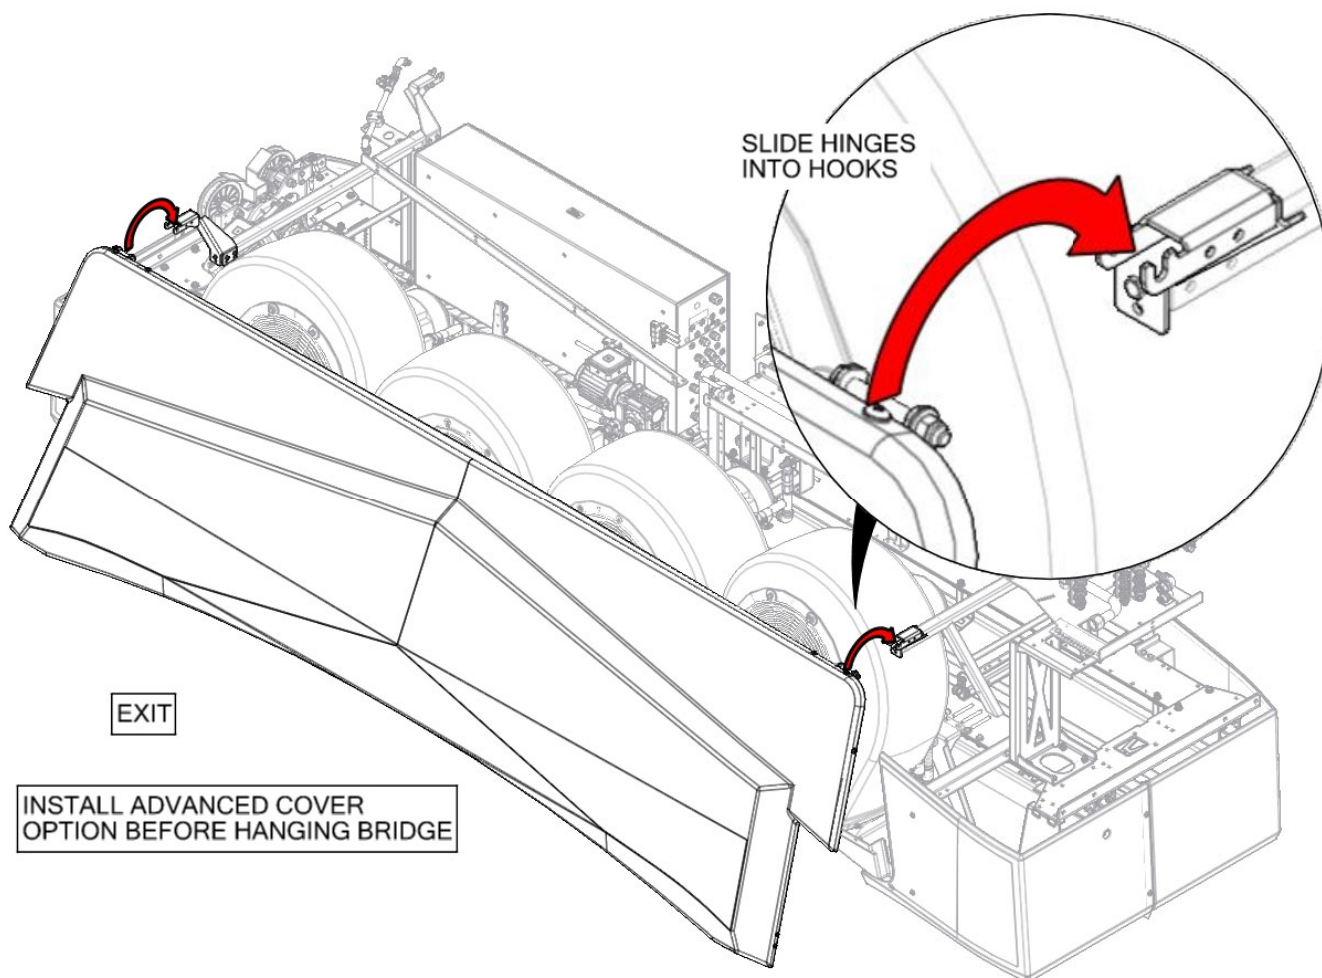
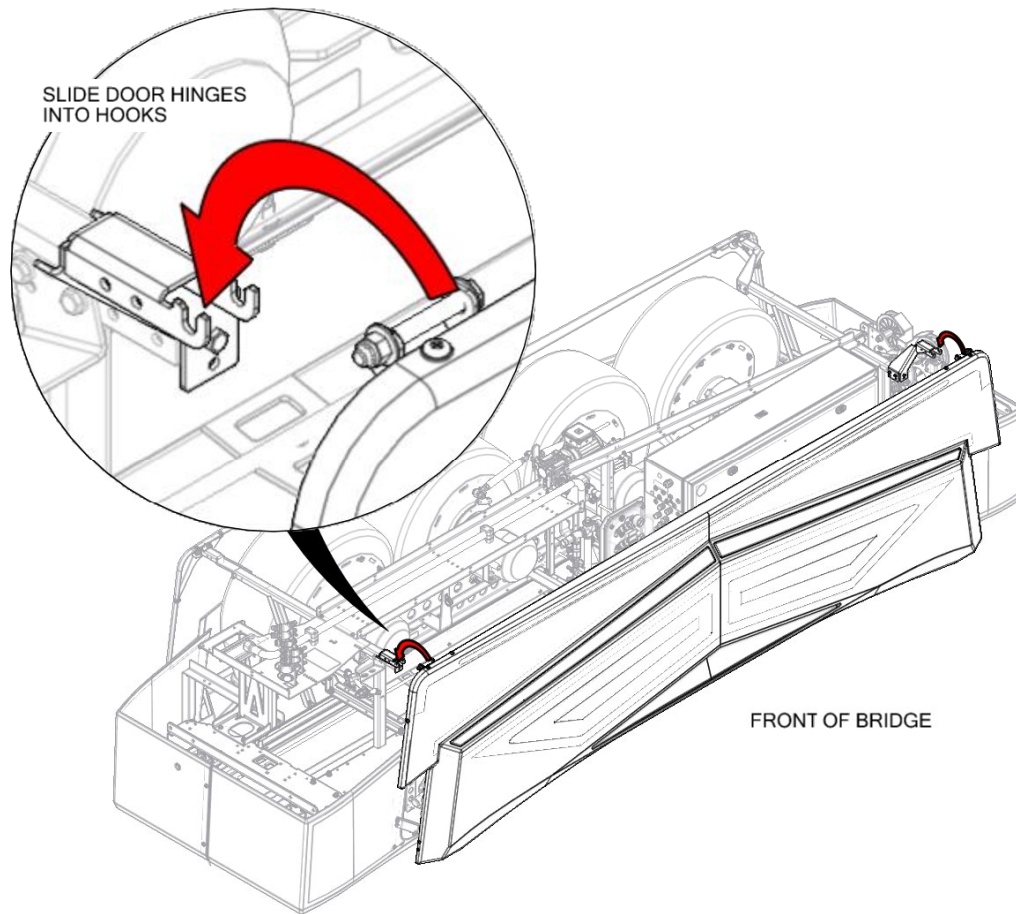

Figure 58 – Advanced Covers, Back Cover Installation
Figure 59 – Advanced Covers, Front Cover Installation
- Lift the center cover and slide the hinges onto the hooks of the hinge brackets on the bridge, Figure 58 and Figure 59.